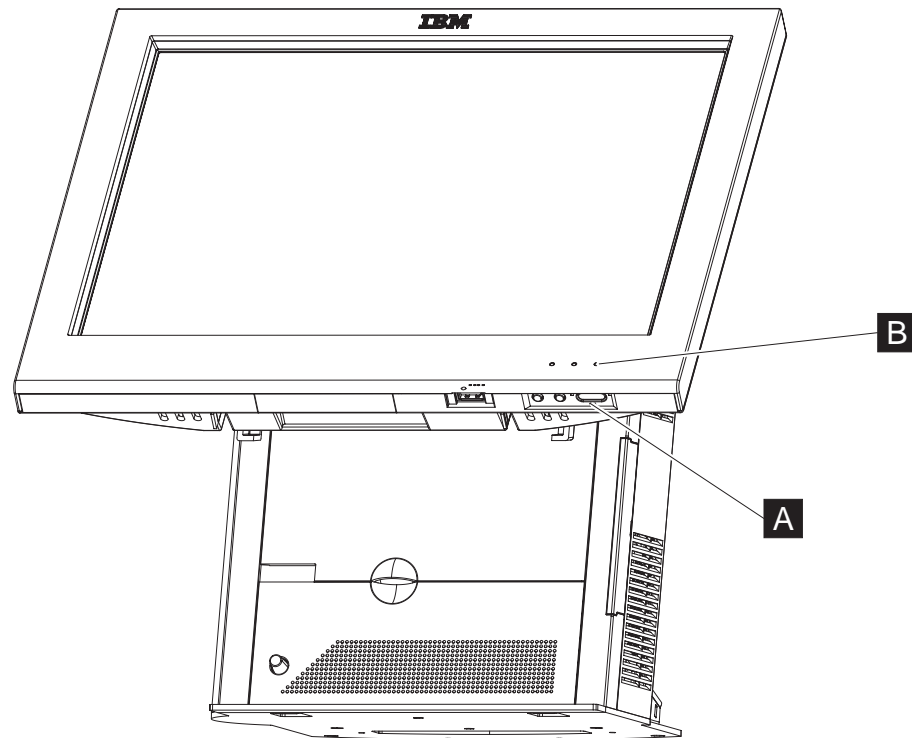

Figure 5. Location of power switch
See Figure 5 to locate the power switch (**A**) and status indicators (**B**). After you complete your installation, follow these steps to ensure your system is operating correctly.
2. See **A** Figure 5 and switch on the power to the SurePOS 500.